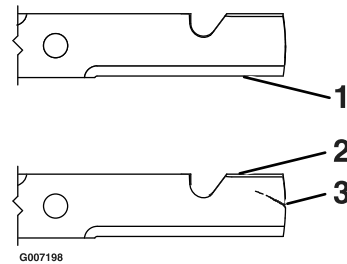

Figure 31
1. Inspect the cutting edges (Figure 31). If the edges are not sharp or have nicks, remove and sharpen the blades; refer to **Sharpening the Blades**.
2. Inspect the blades, especially the curved area. If you notice any damage, wear, or a slot forming in this area (item 3 in Figure 31), immediately install a new blade.